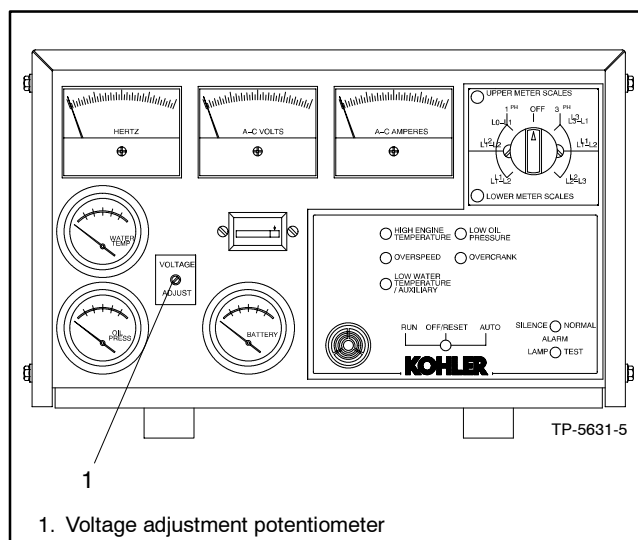

Figure 7-11 Voltage Adjustment (typical)
9. Check voltage at voltmeter. Adjust voltage using the voltage adjustment potentiometer on the controller front panel. See Figure 7-11.